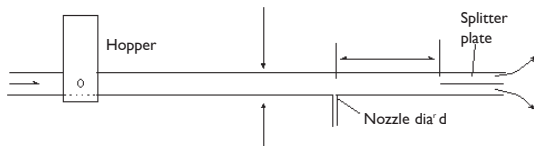

Figure 3. Pilot Study Rig
The concept of applying jet mixers to pipeline conditioning was originated in 1978 with a pilot study using a 2" pipe with water as the main medium and plastic beads as the denser material (ref. 2). The beads were fed into the flowing stream and a single point jet from the bottom of the pipe was used to promote turbulence. The percentage of beads in the top and bottom of the pipe were recorded by weight to give an estimate of vertical distribution (see Fig. 3).